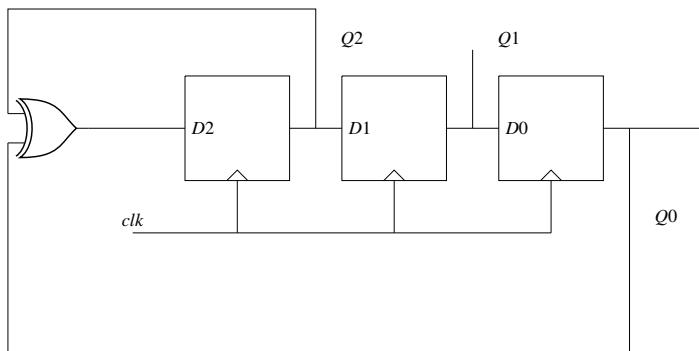

Fig. 5.3: Propagation Delay
2. The propagation delay of the exclusive- OR(XOR) gate in the circuit in Fig. 5.3 is 3 ns. The propagation delay of all the flip-flops is assumed to be zero. The Clock(clk) frequency provided to the circuit is 500 MHz.